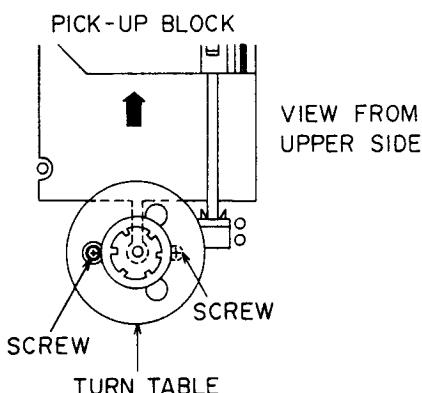

Fig. 3-5
- 2) Keep the PICK UP BLOCK away from the SPINDLE MOTOR (\uparrow direction as shown in Fig. 3-5).
- 3) Remove the two SPINDLE MOTOR fixation screws through the hole on the TURN TABLE (Fig. 3-5), then remove the SPINDLE MOTOR.